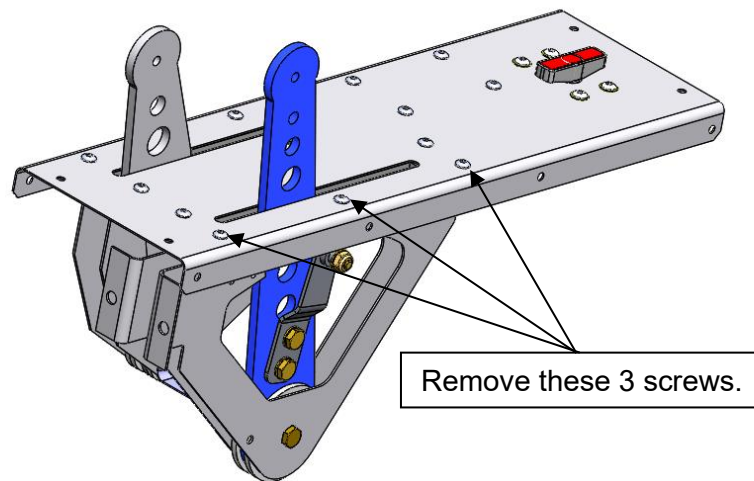

Figure 13
Step 6: Remove the 3 screws attaching the outer bracket to the top mount plate of the throttle quadrant. Refer to Figure 13.